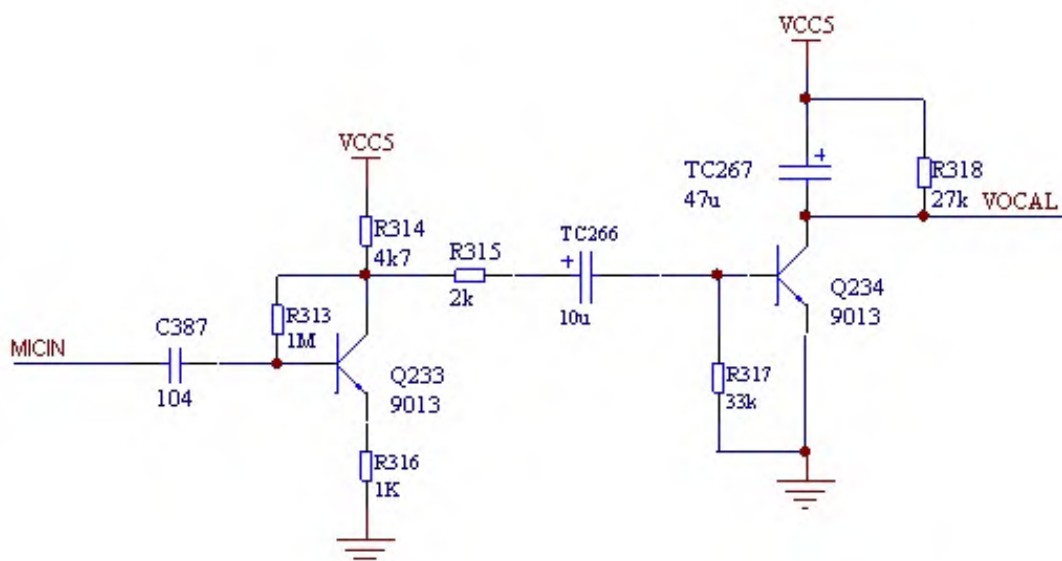

Figure 3.2.16.1 Graded detecting circuit diagram
1. Graded detecting circuit is shown as the following figure 3.2.16.1: